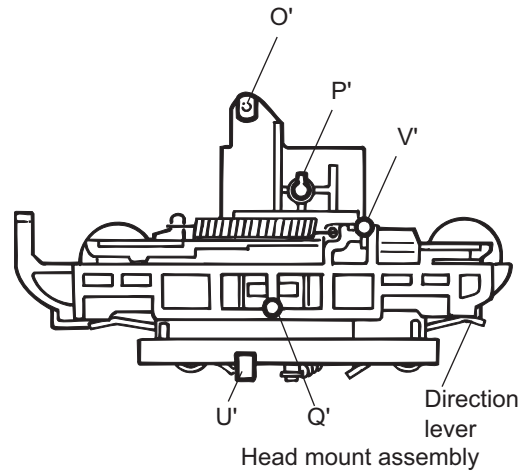
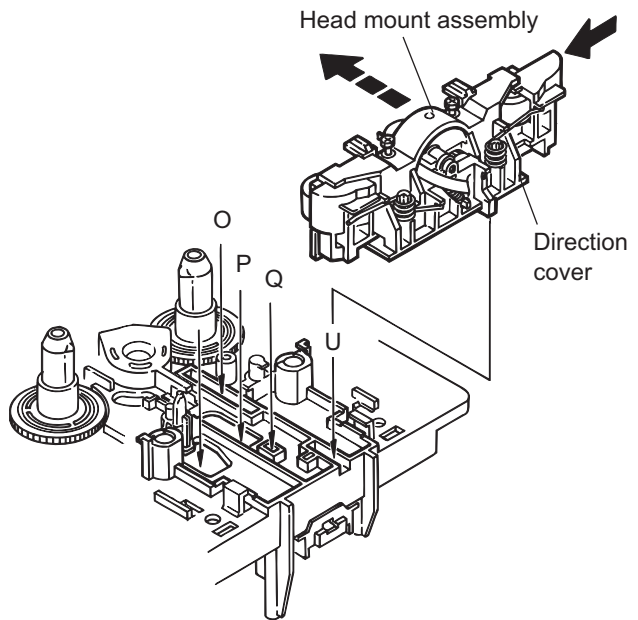
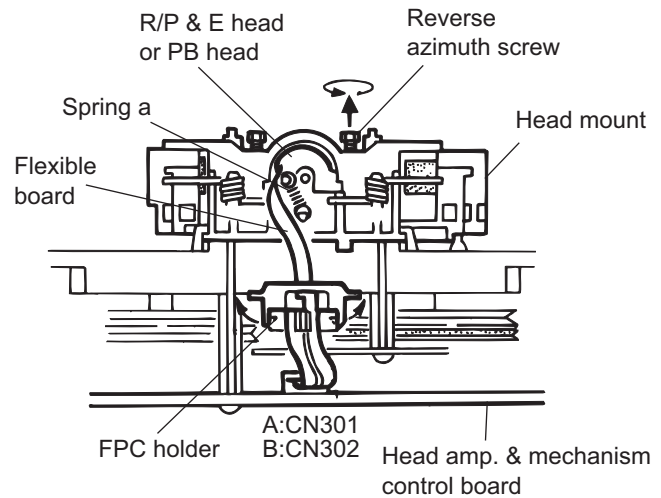

Fig.4
Fig.5
Fig.6
(See Fig. 4 to Fig. 6)**
- (1) Keep the direction lever of head mount assembly to left side (head direction is forward direction).
- (2) Fix the head mount assembly boss **O'**, **P'**, **Q'**, **U'** and **V'** to mechanism sub assembly hole **P**, **V** and ditch **O**, **U** and **Q** (See Fig. 4 and Fig. 5).
- (3) Fix the reversing azimuth screw.
- (4) Attaching the spring a from back side of playback / recording & eraser head.
- (5) Attaching the flexible board to the chassis base.
#### 3.6.2 Removing the woofer speaker (See Fig.6)